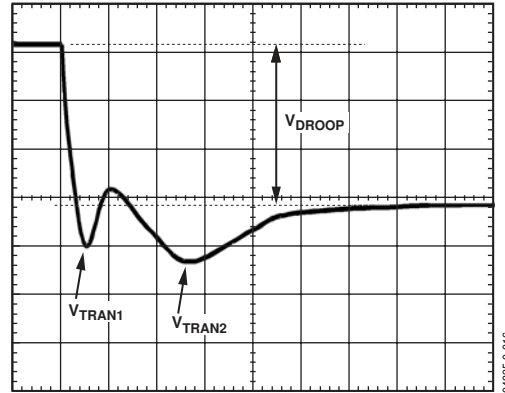
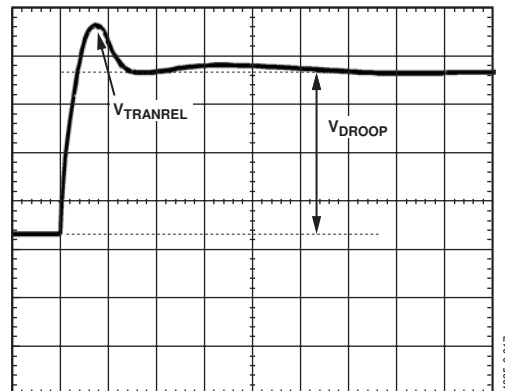

Figure 16. Transient Setting Waveform
Figure 17. Transient Setting Waveform
19. With the dynamic load still set at the maximum step size, expand the scope time scale to see 2 $\mu\text{s}/\text{div}$ to 5 $\mu\text{s}/\text{div}$. The waveform may have two overshoots and one minor undershoot (see Figure 16). Here, V_{DROOP} is the final desired value.
21. For load release (see Figure 17), if $V_{TRANREL}$ is larger than V_{TRAN1} (see Figure 16), there is not enough output capacitance. Either more capacitance is needed, or the inductor values need to be smaller. (If inductors are changed, start the design again using the spreadsheet and this tuning procedure.)